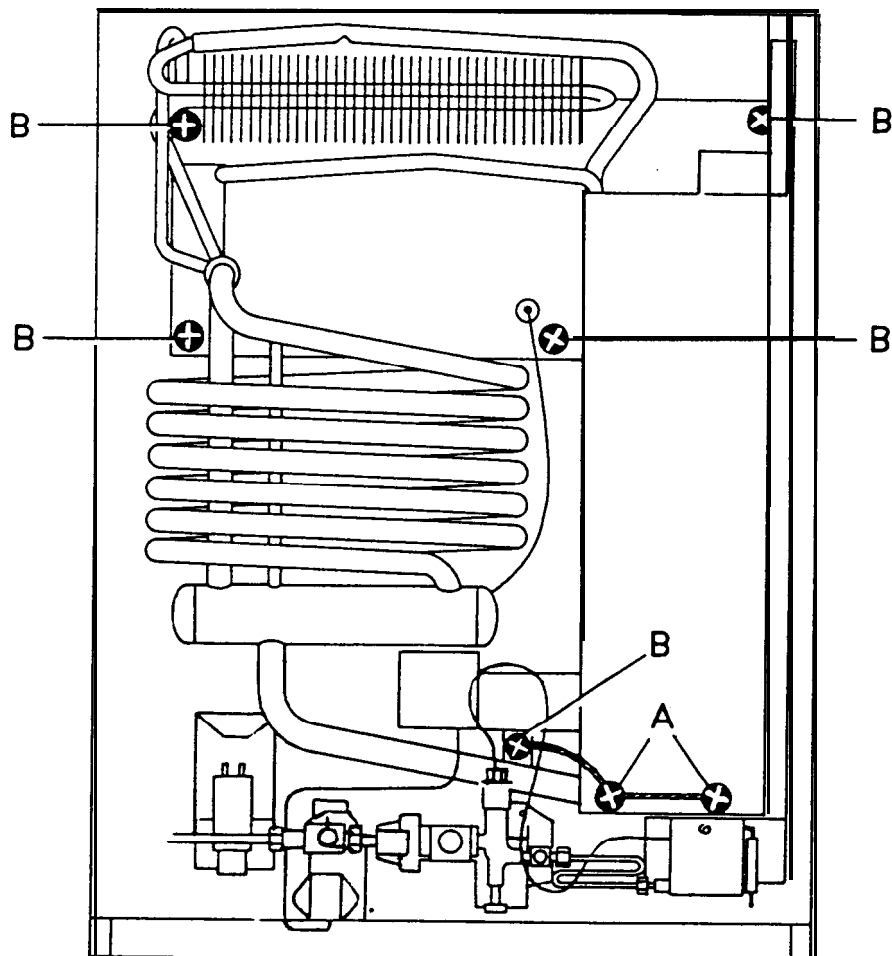

Fig. 46
8. Remove the grounding screws "A" (see Fig. 46) on the lower part of the boiler case.
10. Remove the screws "B" (see Fig. 46) holding the absorption unit onto the back of the cabinet.
8. Remove the screws "B" holding the absorption unit onto the back of the refrigerator (fig. 46).